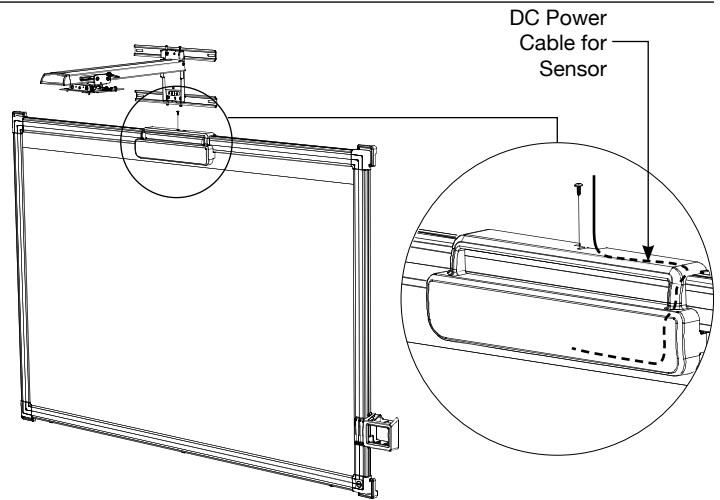

Figure 12
20. Attach sensor cover by snapping clips over screen frame. Secure to frame by screwing down into the upper channel of the screen frame with supplied #8 x 3/4" screw (Figure 12).